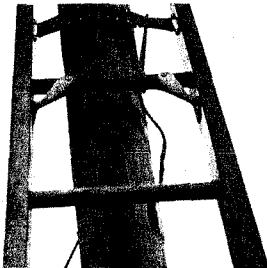

Fig. 10 — Handline Around Pole
- (c) Bring the handline around the back of the pole (see Fig. 10).